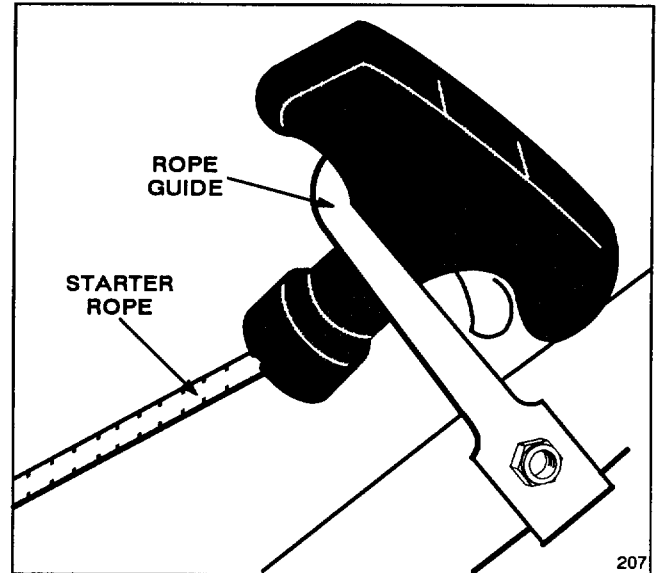

Figure 3
3. **STARTER ROPE** (Fig. 3)—Pull starter rope through opening in rope guide. By squeezing control bar (Fig. 6) against handle, blade brake will release and allow rope to be pulled easily up to rope guide.